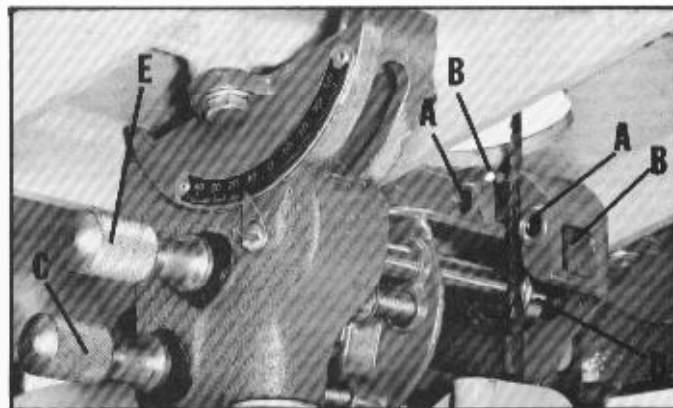

Fig. 21
1. Loosen the two screws (A) Fig. 21, and move the guides (B) as close as possible to the side of the blade, being careful not to pinch the blade. Then tighten screws (A).
2. The front edge of the guide blocks (B) should be adjusted so they are just behind the "gullets" of the saw teeth by turning the knurled knob (C) Fig. 21.
3. The lower blade support bearing (D) Fig. 21, should be adjusted so it is about $1/64$ " behind the back of the blade by turning the knurled knob (E).